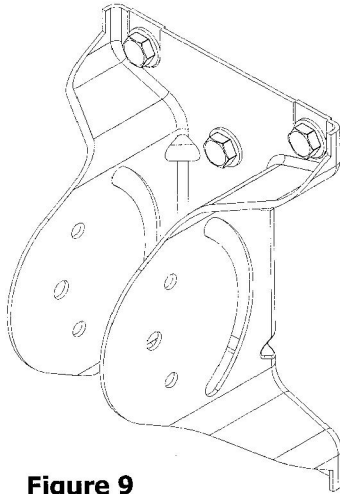

Figure 9
Step 1: Locate the wall stud in the area of installation. Align the holes of the Mounting Bracket with the center of the stud. Mark the upper hole in the center of the bracket with a pencil and drill a 1/8" hole. Attach the Mounting Bracket to the wall with a 1/4" X 3" lag screw* and washer, but do not tighten. Use a Spirit Level to ensure that the bracket is horizontally and vertically level. Drill an 1/8" hole for the bottom hole in the center of the bracket and insert a 1/4' X 3" lag screw and washer*. Tighten both lag screws. Drill a 1/8" hole in each of the holes in the four corners of the Mounting Bracket. Insert and tighten a 5/16" X 1 1/2" and washer* in each corner hole (**fig 9**).